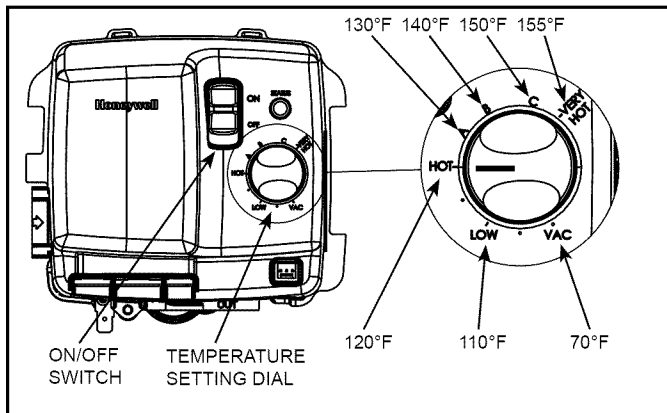

Figure 48.
This water heater is equipped with an adjustable thermostat to control water temperature (see Figure 48). Hot water temperatures required for automatic dishwasher and laundry use can cause scald burns resulting in serious personal injury and/or death. The temperature at which injury occurs varies with the person's age and time of the exposure. The slower response time of children, aged or disabled persons increases the hazards to them. Never allow small children to use a hot-water tap, or to draw their own bath water. Never leave a child or disabled person unattended in a bathtub or shower.
The thermostat settings on the gas control valve are shown in Figure 48.
1. Turn the thermostat on the gas control to the lowest setting. If the heater is running, wait for it to shut down (see Figure 48).